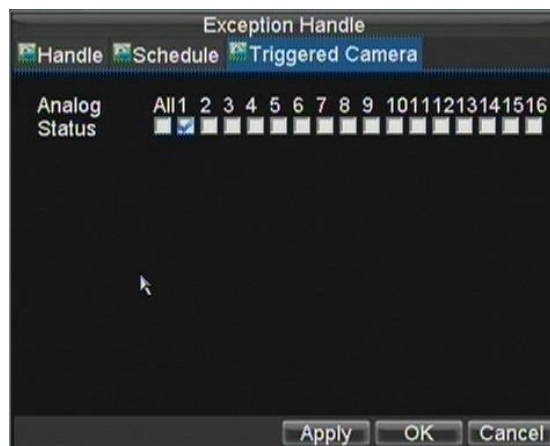

Figure 7. Triggered Cameras Menu
6. Select cameras to trigger for recording when alarm occurs by checking the checkboxes under the desired cameras, as shown in Figure 7.